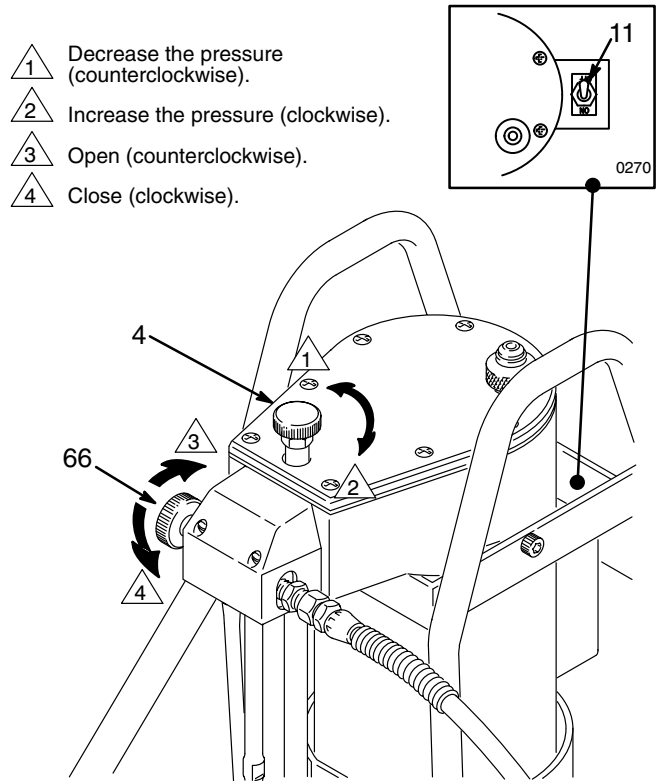

Fig. 7
1. Shut off the sprayer. Lock the gun trigger safety lever. Open the bypass valve ONE turn **counterclockwise**. Raise the paint pump just above the paint and turn on the sprayer to drain the paint. Now turn off the sprayer. See Fig. 7.